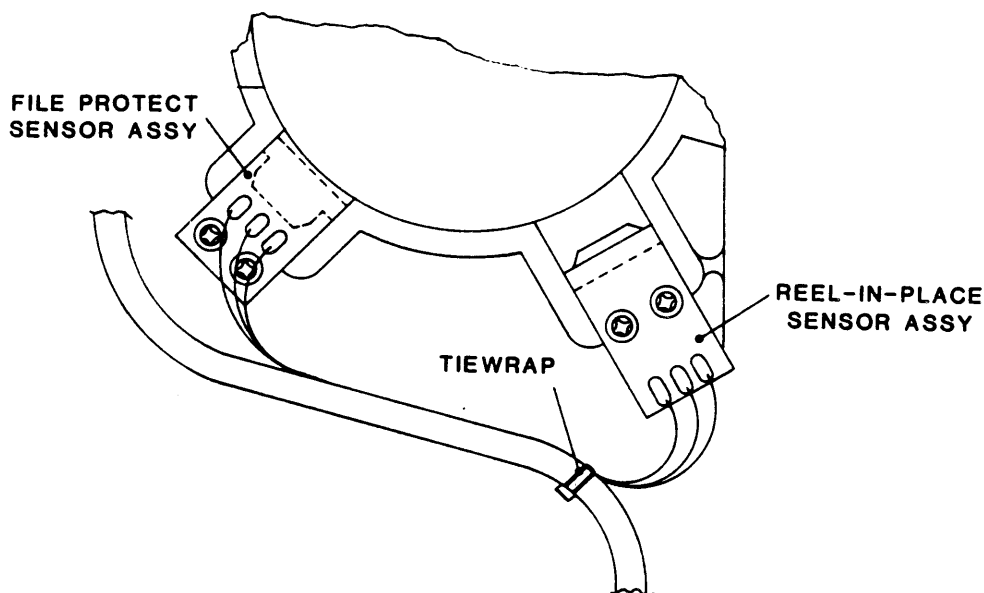

Figure 4-12 File-Protect and Reel-In-Place Sensor Assemblies
4.3.11 REEL-IN-PLACE SENSOR ASSEMBLY (Fig. 4-12)
4.3.12 FILE PROTECT SENSOR ASSEMBLY (Fig. 4-12)